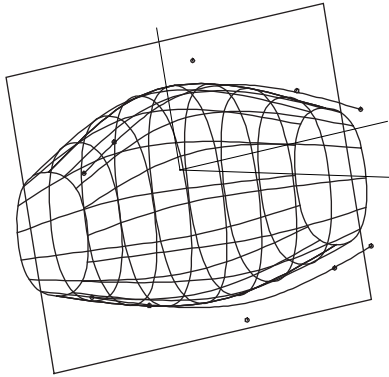

Fig. 14
- 8  (the one with the all blue boundary) > **Mirrored Surface** or **Insert>Surface>Mirrored Surface**. **OK** to accept all defaults. (Fig. 14). This should match TANSURFACE2.sldprt.